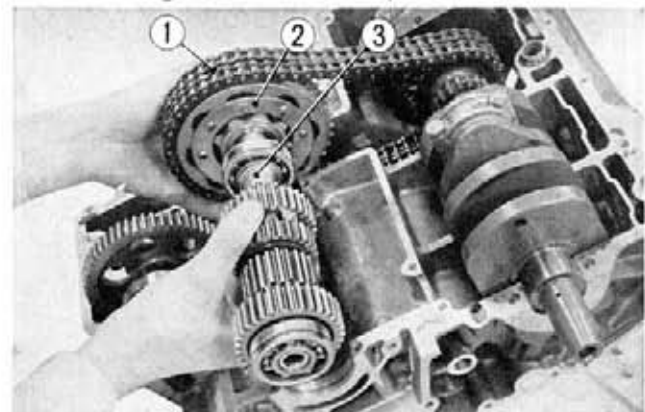

Fig. 3-88 ① Primary chain ② Primary sprocket ③ Transmission mainshaft
4. Raise the transmission mainshaft and remove the primary driven sprocket from the mainshaft and then remove the primary chain from the primary driven sprocket. (Fig. 3-88)